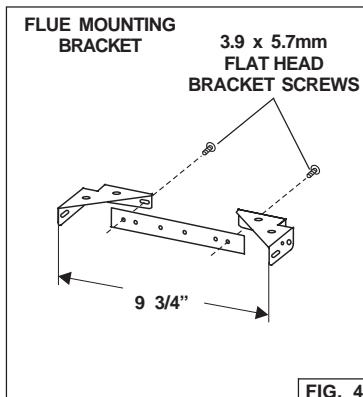

FIG. 4
1. Assemble the flue mounting bracket, adjusting outside width as shown. Fig. 4
3. Secure the bracket assembly to the ceiling using (2) 4.8x38mm mounting screws and drywall anchors. Make sure the bracket is pushed into the corner, tight against the wall and centered over the hood.